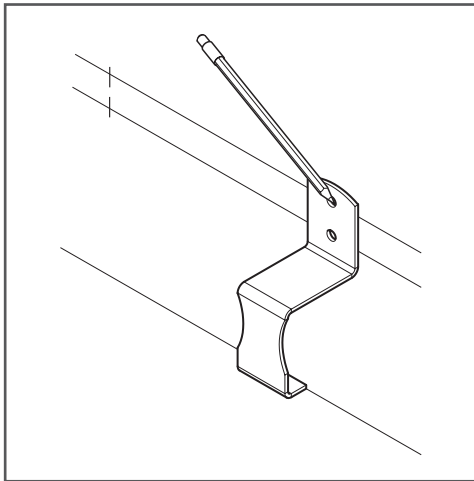

Figure 3
4. Place the bottom edge of one of the brackets (B.) along the line drawn in step 2 in the stud locations marked in step 3. Using a pencil, mark the center of each bracket hole (Figure 3).